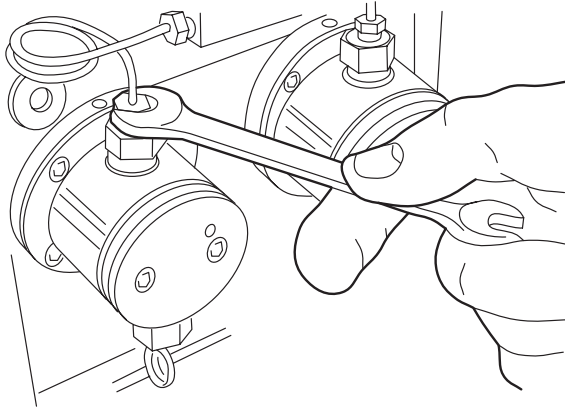

Figure 4-12 Outlet Check Valve Removal
8. With the pump head upside-down, use a 1/2-inch wrench to remove the outlet check valve assembly (Figure 4-12). Disassemble the check valve by tipping the housing upside down.